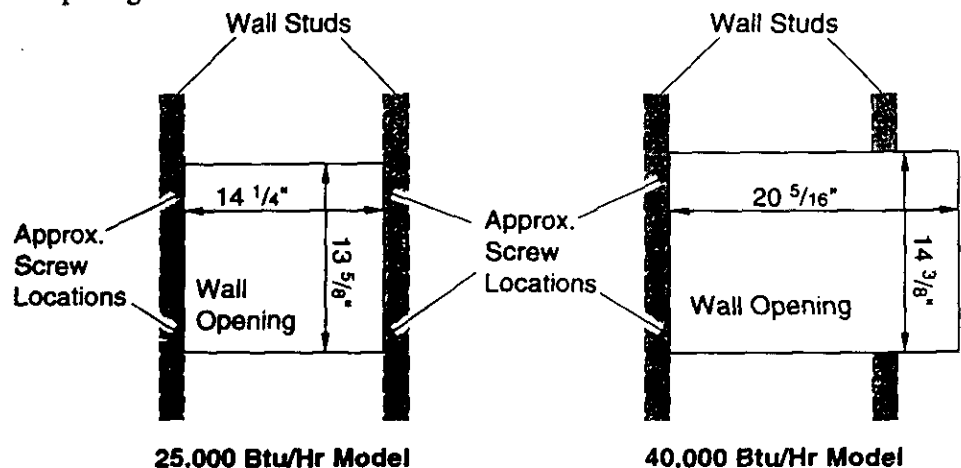

Figure 2 - Wall Openings and Screw Locations
3. **25,000 Btu/Hr Model:** Cut an opening in wall between the two studs. Make opening 14 1/4" wide by 13 5/8" high (see Figure 2). **IMPORTANT:** You must install furnace horizontally. Do not install furnace vertically.
**40,000 Btu/Hr Model:** Cut a 20 5/16" wide by 14 3/8" high opening in wall (see Figure 2). Start your cut right next to stud you are going to anchor cabinet to. Cut across wall and through the next stud. Stop cut at proper width. **IMPORTANT:** You must install furnace horizontally. Do not install furnace vertically.
4. **25,000 Btu/Hr Model:** Mark screw locations on wall (see Figure 2). Make sure screws will anchor into studs. Make sure screw locations match screw holes on cabinet flange.
**40,000 Btu/Hr Model:** Mark screw locations on wall (see Figure 2). Make sure screws on one side will anchor into studs. Screws on other side will only anchor in wall material. Make sure screw locations match screw holes on cabinet flange.